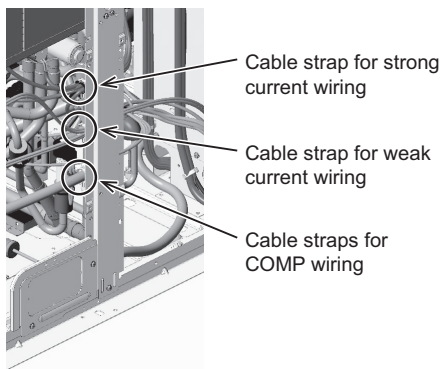

Figure 4
- (6) Remove the cable straps from the front center pillar. (3 straps, Figure 4)